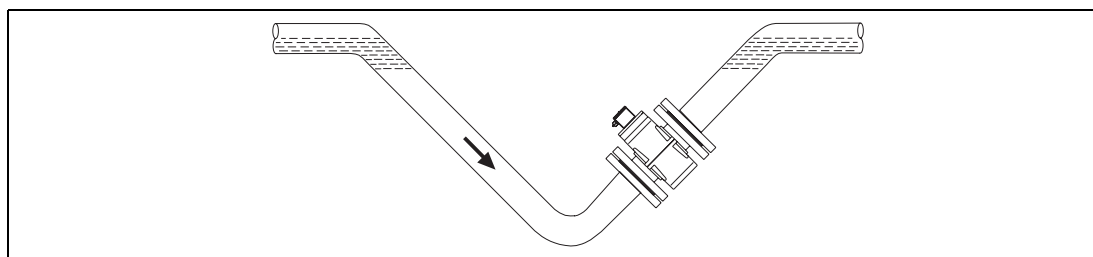

Fig. 11:
- Free in- or outflow, provide an invert, to assure that the meter pipe is always full (Fig. 11)